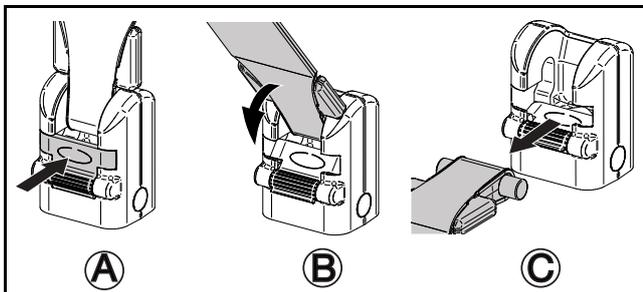

Fig. 4
- 2) Open the latch that locks the strap in place by pushing it inward (see Fig. 4 A).
- 3) Rotate the strap towards the latch (see Fig. 4 B).
- 4) Pull the strap out of the attachment (see Fig. 4 C).